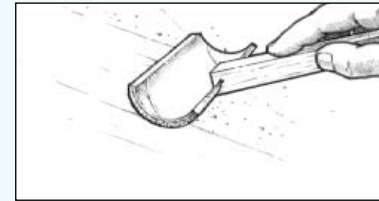

Figure 31 Tip off the coating by dragging a foam roller brush lightly over the fresh epoxy.
8. “Tip off” the coating by dragging a foam roller brush lightly over the fresh epoxy in long, even, overlapping strokes after each batch is applied. Use enough pressure to smooth the stipple, but not enough to remove any of the coating (*Figure 31*). Alternate the direction in which each coat is tipped off, 1st coat vertical, 2nd coat horizontal, 3rd coat vertical, etc. A WEST SYSTEM 800 Roller Cover can be cut into segments to make an excellent “tipping” brush.